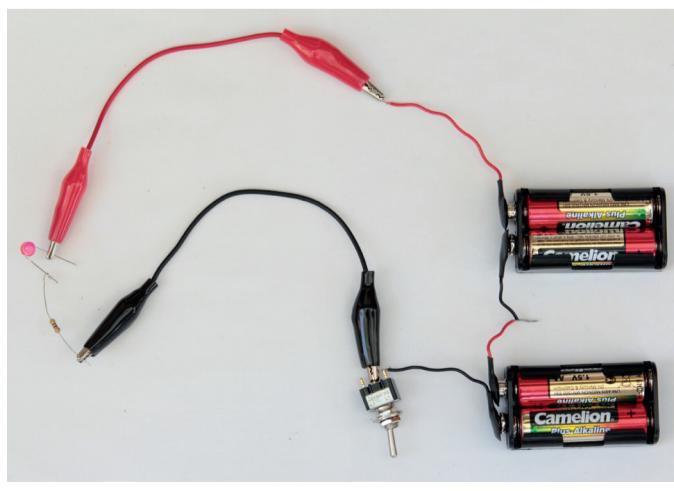

Figure 3: A circuit with an LED, a battery, a switch, a resistor and an LED.
1. Draw a circuit diagram for Figure 3.